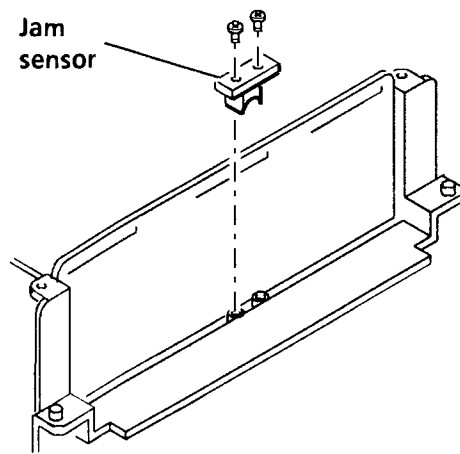

Figure 1. Jam sensor
7. Remove two screws (Figure 1) retaining the jam sensor.